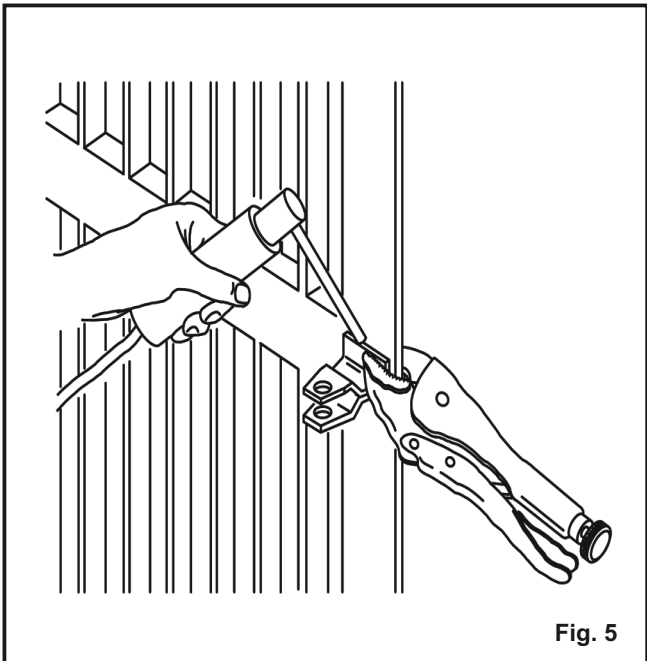

Fig. 5
M) Remove the operator from its temporarily and permanently weld the front attachment on the wing(Fig. 5);